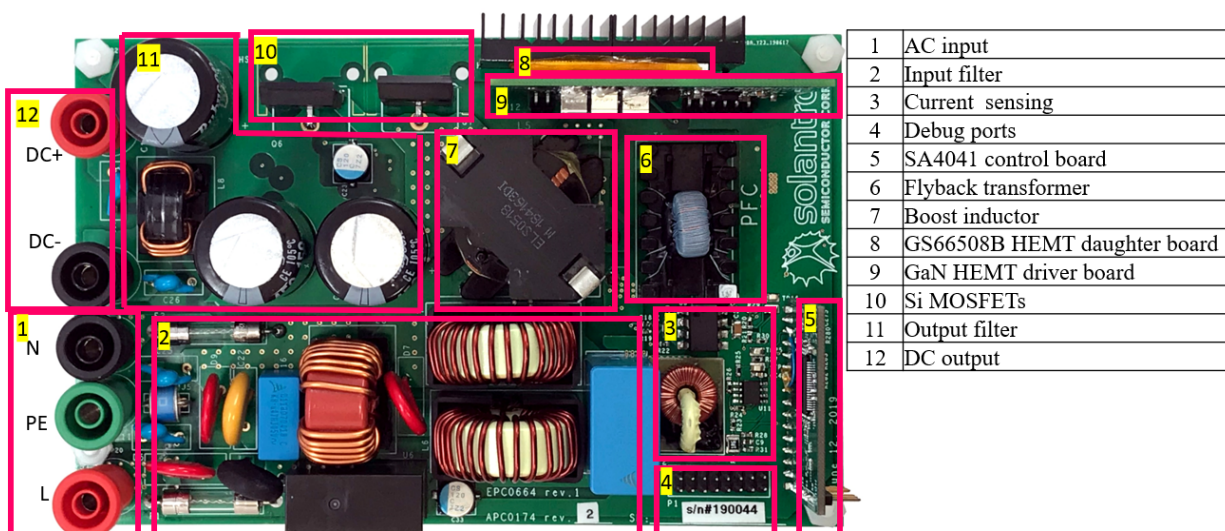

Figure 3.1. 1.2-kW BTP PFC evaluation board
The 1.2 kW Bridgeless Totem-Pole PFC (BTP PFC) implemented with two GaN Systems' GS66508B E-HEMTs is controlled by the Solantro advanced digital power processor IC, SA4041. This design meets the 80 PLUS® Titanium performance standards for data centers and computing applications. It has high power density, reliable start-up, reduced heat sinking and low EMI. The topology is typically used as a front-end for AC/DC converters in Electric Vehicle (EV) on-board chargers (OBC) and industrial power supply applications. The 1.2 kW BTP PFC with GaN Systems HEMTs evaluation board and specifications are shown in Figure 3.1 and Table 3.1. Inrush protection and EMI filtering are included on-board - please refer to Figure. 8.1, Mother board schematic for more details.
Refer to Figure 3.1, to make the following connections: